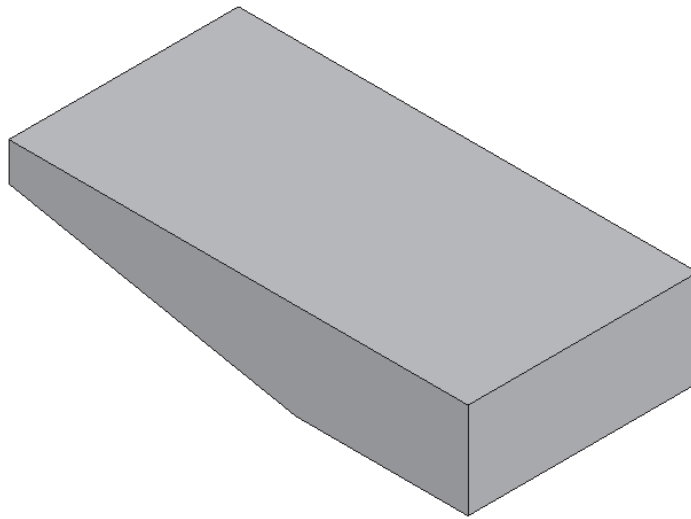

Figure 8-57 Base feature of the model
- a. Start Solid Edge in the **Part** environment. Create the base feature on the front plane, refer to Figure 8-57.
2. Create the profile of the base feature and extrude it symmetrically. The base feature of the model is shown in Figure 8-57.